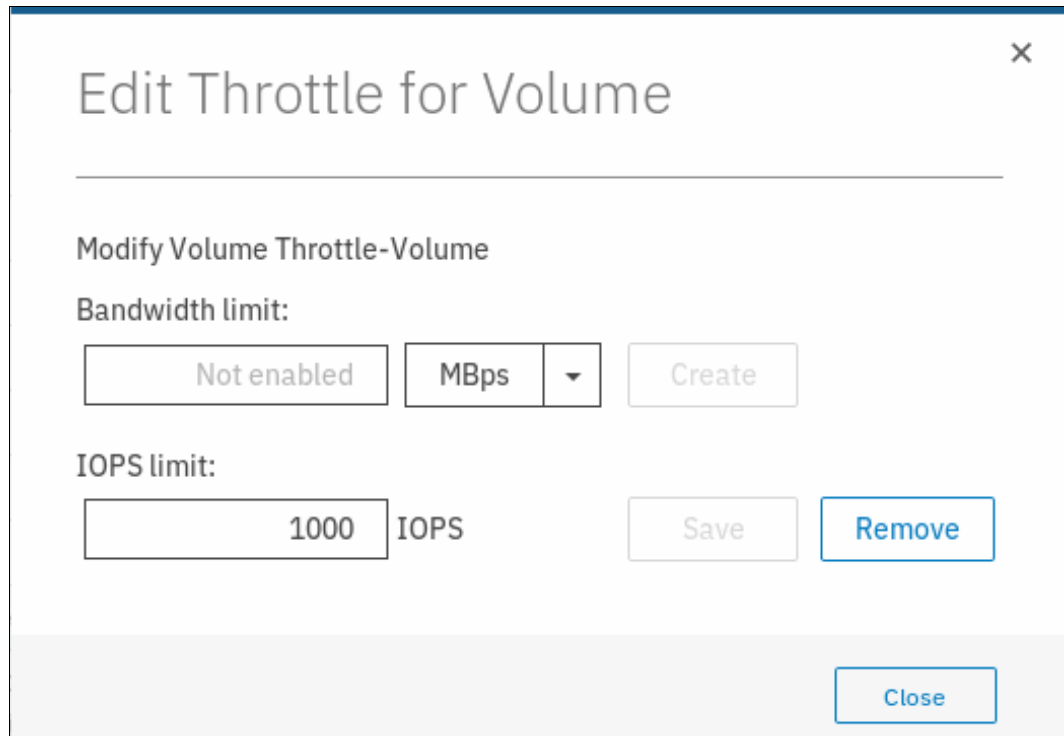

Figure 6-57 Remove throttle
2. A window opens in which you can remove the throttle that was defined. In our example, we remove the throttle on IOPS by clicking **Remove**, as shown in Figure 6-57.